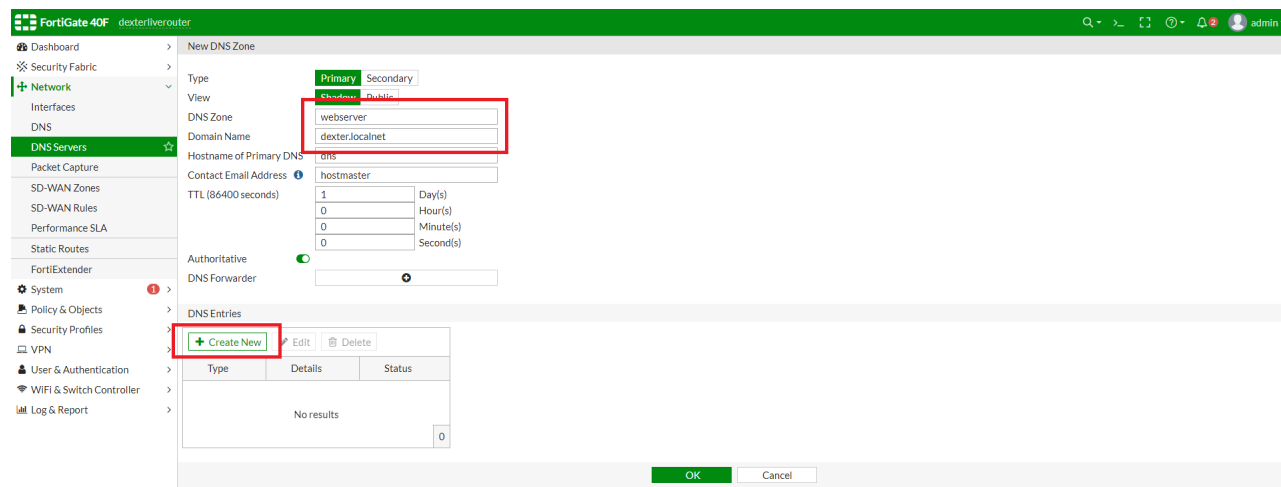

Figure 15
8. Add a new DNS zone by entering **webserver** for "DNS Zone" and **dexter.localnet** for the "Domain Name". Create a new DNS Entry by selecting "Create New" under "DNS Entries". **Do NOT press "OK" at this time.** (Figure 15)